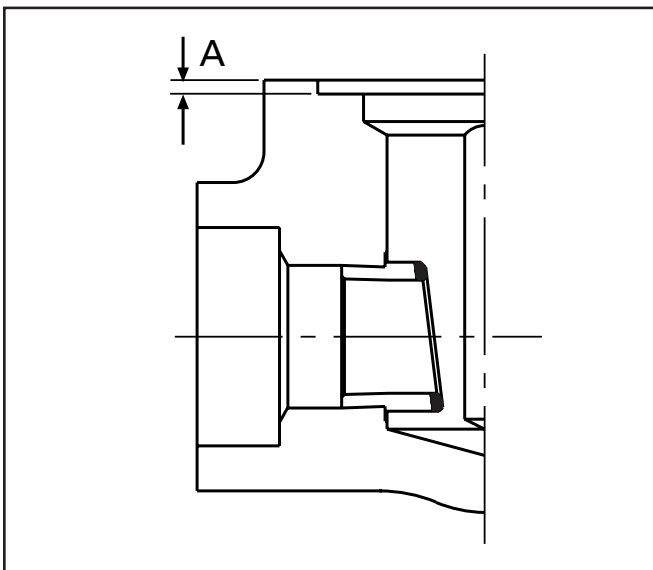

Figure 5.2A Gasket recess
The spiral wound gasket (19) may be fully compressed (zero gap between interfaces of the joint) at 110% of the torque given in *Table 5.2*. The following criteria should be used (see *Figure 5.2A*).
Gasket recess "A" dimension (Figure 5.2A)